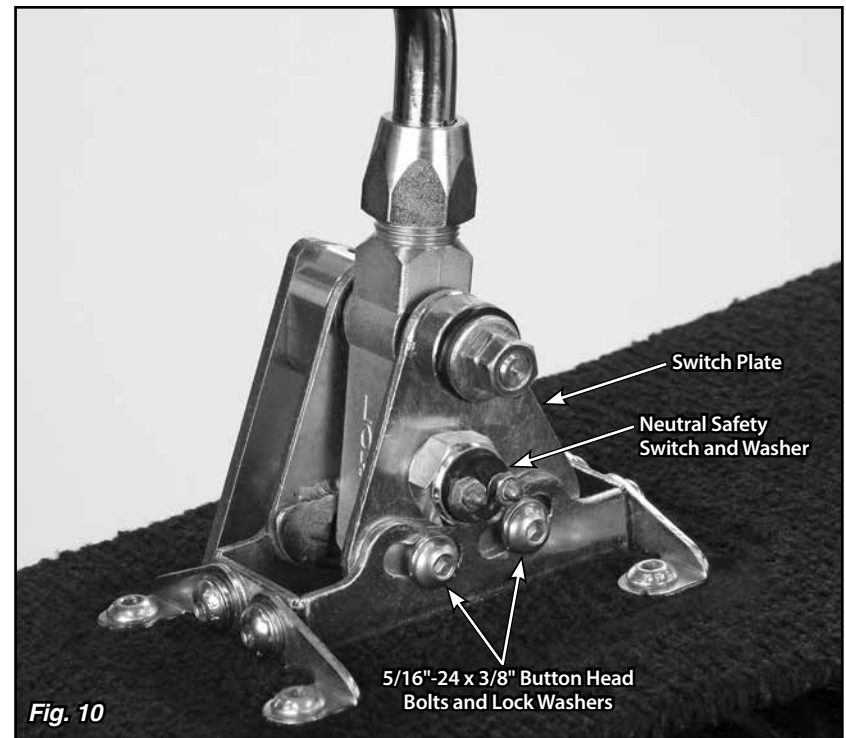

Fig. 10
Step 16: Remove the neutral safety switch and washer (**Fig. 10**) from the passenger side of the Shifter using a 7/8" wrench or socket.
Step 17: Loosen, but do not remove, the two 5/16"-24 x 3/8" button head bolts and lock washers that attach the passenger side of the floor mount mounting bracket to the switch plate (the bolts are in curved, slotted holes). **Fig. 10**